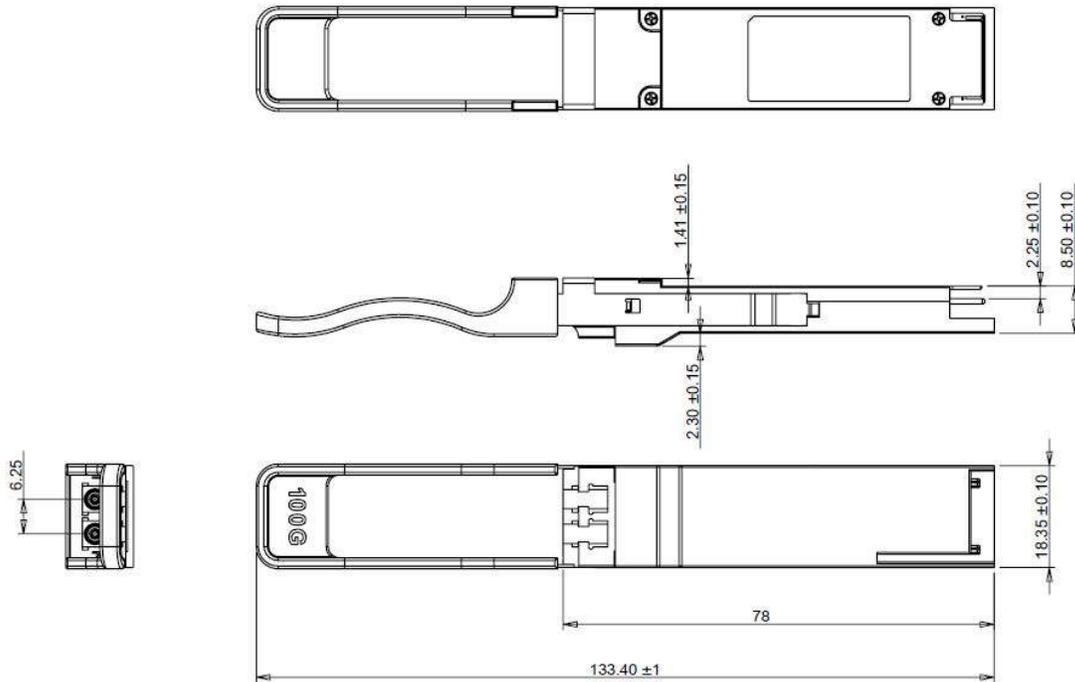

Figure4. Mechanical Specifications
2. VccRx, Vcc1 and VccTx are the receiving and transmission power suppliers and shall be applied concurrently. Recommended host board power supply filtering is shown in Figure 4 below. Vcc Rx, Vcc1 and Vcc Tx may be internally connected within the module in any combination. The connector pins are each rated for a maximum current of 1000mA.